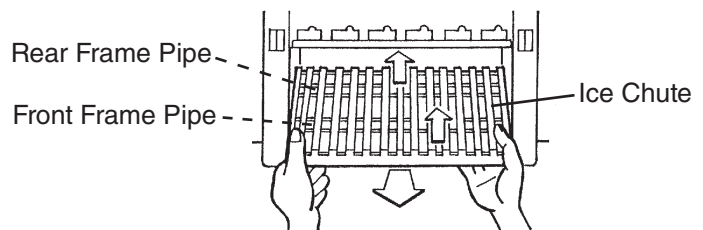

Fig. 38
- 6) Lift off the ice chute from the front frame pipe and then from the rear frame pipe. See Fig. 38.